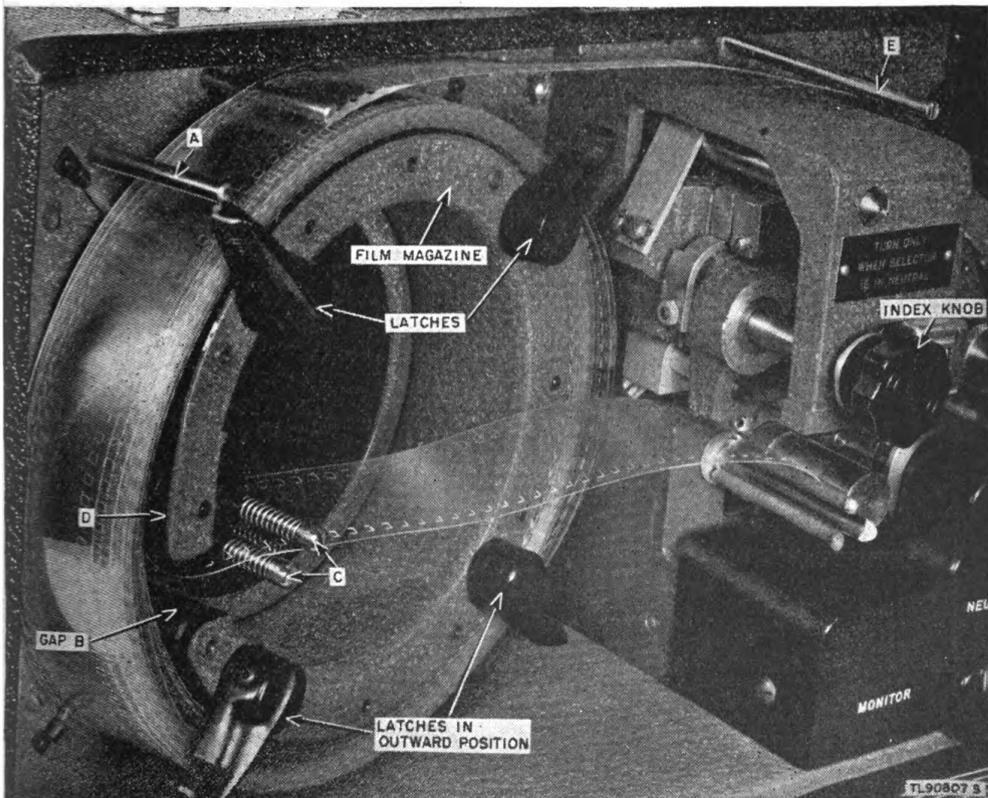
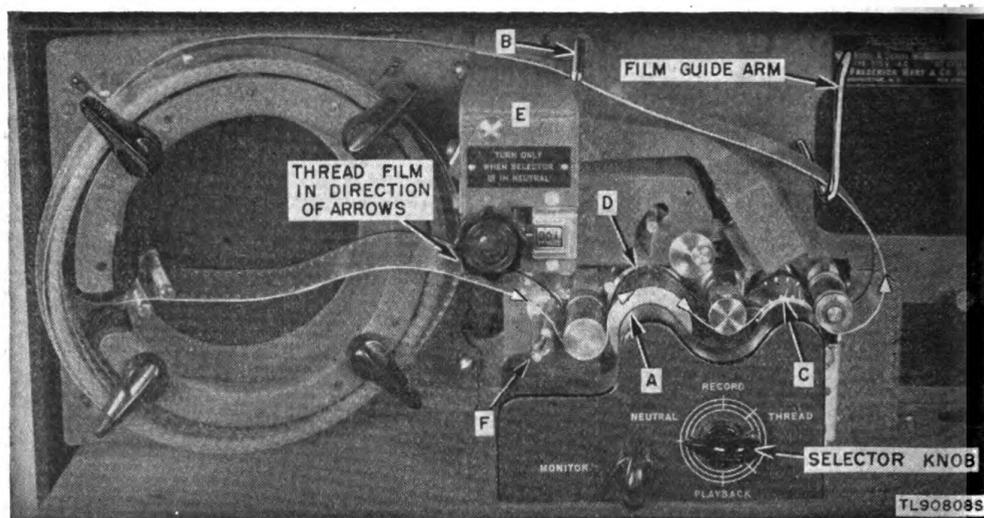

Figure 11. Close-up of film magazine and carriage bracket.
Figure 12. Threading the film.
a. Set index knob (fig. 11) to track No. 1 to facilitate loading or removal of film. Track No. 1 appears as 001 on the track indicator.
(1) If the film roll is equipped with a gate, make sure the eyelet on the gate is placed over the lower post ((A) fig. 11), as the film is placed over the small magazine rollers. Place the inside loop of the film under the large roller (D) and through the gap in the magazine (B). Follow through the coil spring rollers (C) (static eliminator).
(2) Holding the film on the magazine with one hand, snap the film latches back to their original position. Straighten the film on the rollers.
(3) If straight film is used, hold the inside loop of film with the left hand, and with the right hand pull the outside loop at the top of the magazine until enough film is extended for purposes of threading. Place the top loop over or under the carriage bracket film guide pin (E) and then through the bend of the film guide arm. (See fig. 12.) See paragraph 11 for threading instructions.
With the recording film in place on the film magazine and sufficient film length extending over the carriage mechanism (E) to permit threading, proceed as follows (fig. 12):
b. Holding the film with the left hand at a point about 1 inch to the left of the film wiper (F), proceed to thread with the right hand following the arrow path shown in figure 12. Follow the procedure carefully.
c. The outside of the recording-drum-spring flange (A) is spring-controlled and must be pulled out slightly to permit the film to lie flat upon the drum (D).
d. Thread reverse film in like manner. Be sure to place the film *under* the carriage bracket film guide pin (B).
**Caution:** Be certain that the sprocket holes on the film are matched with the sprocket teeth (C). Also check the seating of the film on the recording drum (D).